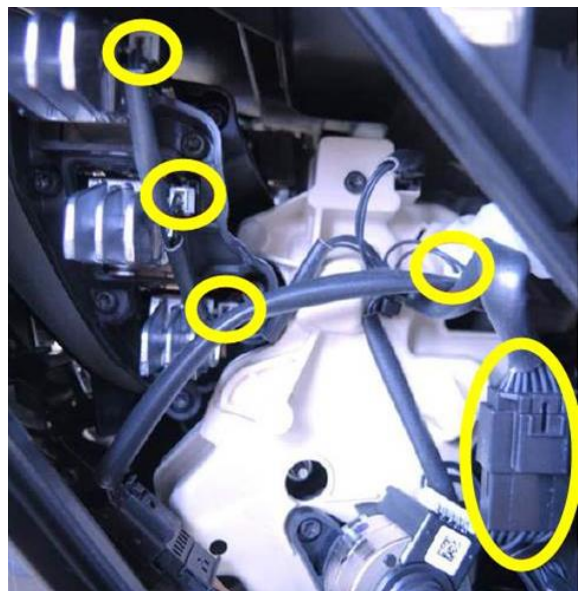

Figure 4. Check these connectors on vehicles with PR codes 8EX and 8EY.
- If the vehicle is equipped with one of the following PR codes, check the connectors shown at right (Figure 4):